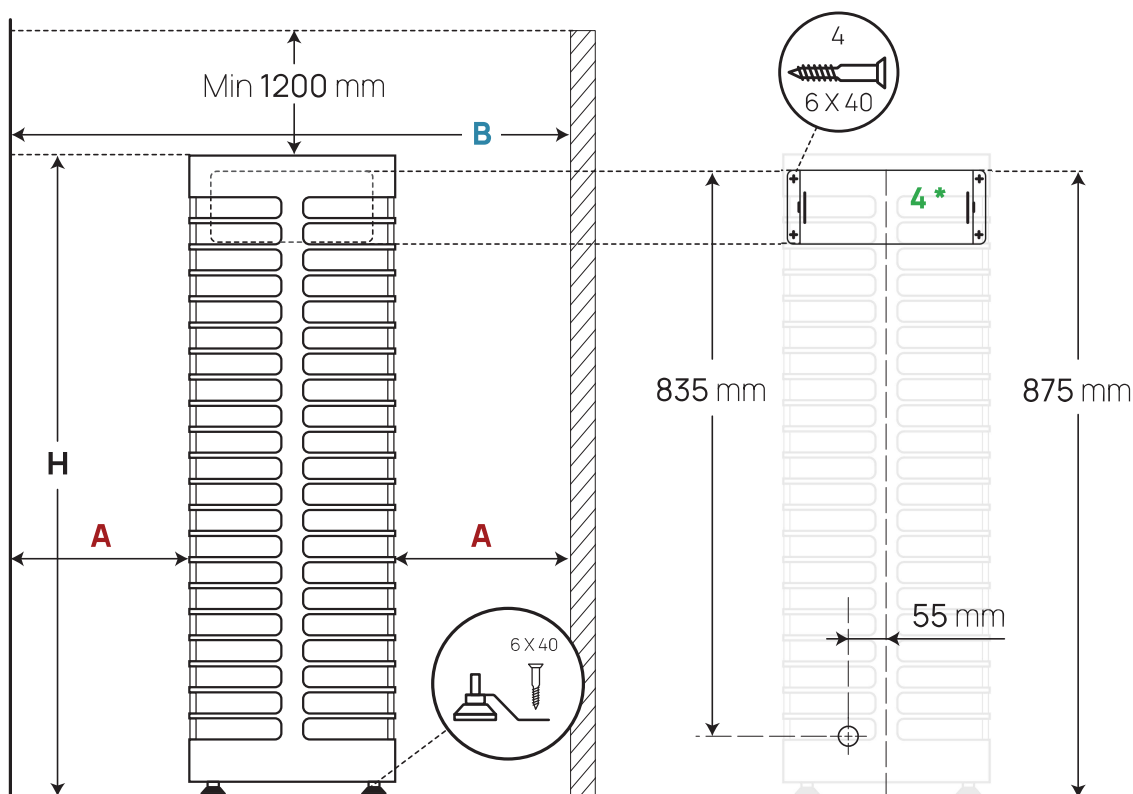

Figure 1 Positioning of the heater
Minimal safety distances between the sauna room's ceiling and walls in view of installing the electric heater have been provided in **Table 1** and **Figure 1**.
- **HUUM STEEL 6, 9 and 11 models** are attached to the floor using the included brackets. Install the bracket to the heater leg as shown in **Figure 1** and fix it with a screw corresponding to the construction of your floor (recommended min. 6 x 40mm).
- Attach **HUUM STEEL Mini 4** to the wall of the sauna room using the wall mounting plate included in the package. See **Figure 1**.